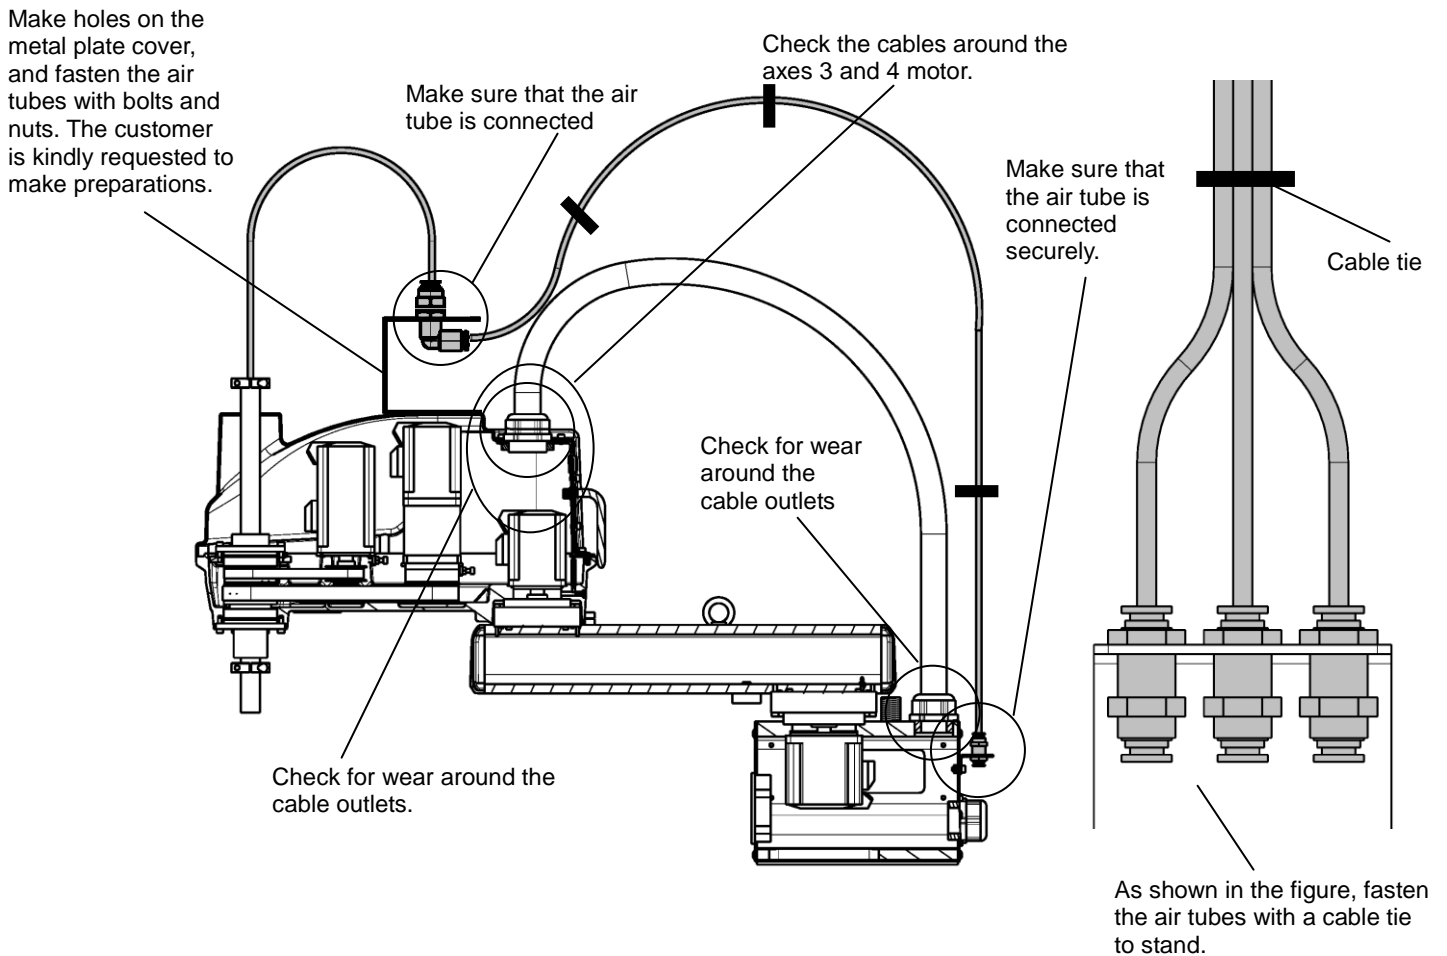

Fig. 3.3 Cable inspection locations (THL500, THL600, THL700)
- Please note that Fig. 3.3 shows a piping example and does not warrant damage to the air tube and its accessories.